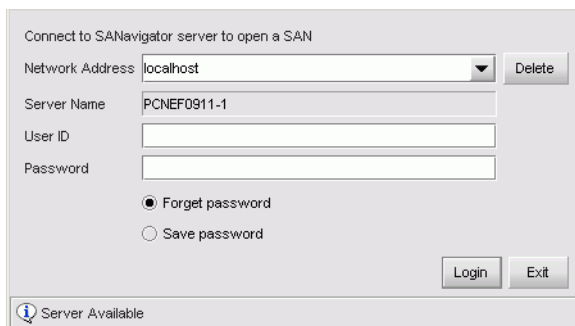

Figure E-5 EFCM Log In or SANavigator Log In Log In Dialog Box
- f. Type the default Windows 2000 user name and password and click **OK**. The server Windows 2000 desktop opens and the *EFCM Log In* or *SANavigator Log In* dialog box displays (Figure E-5).